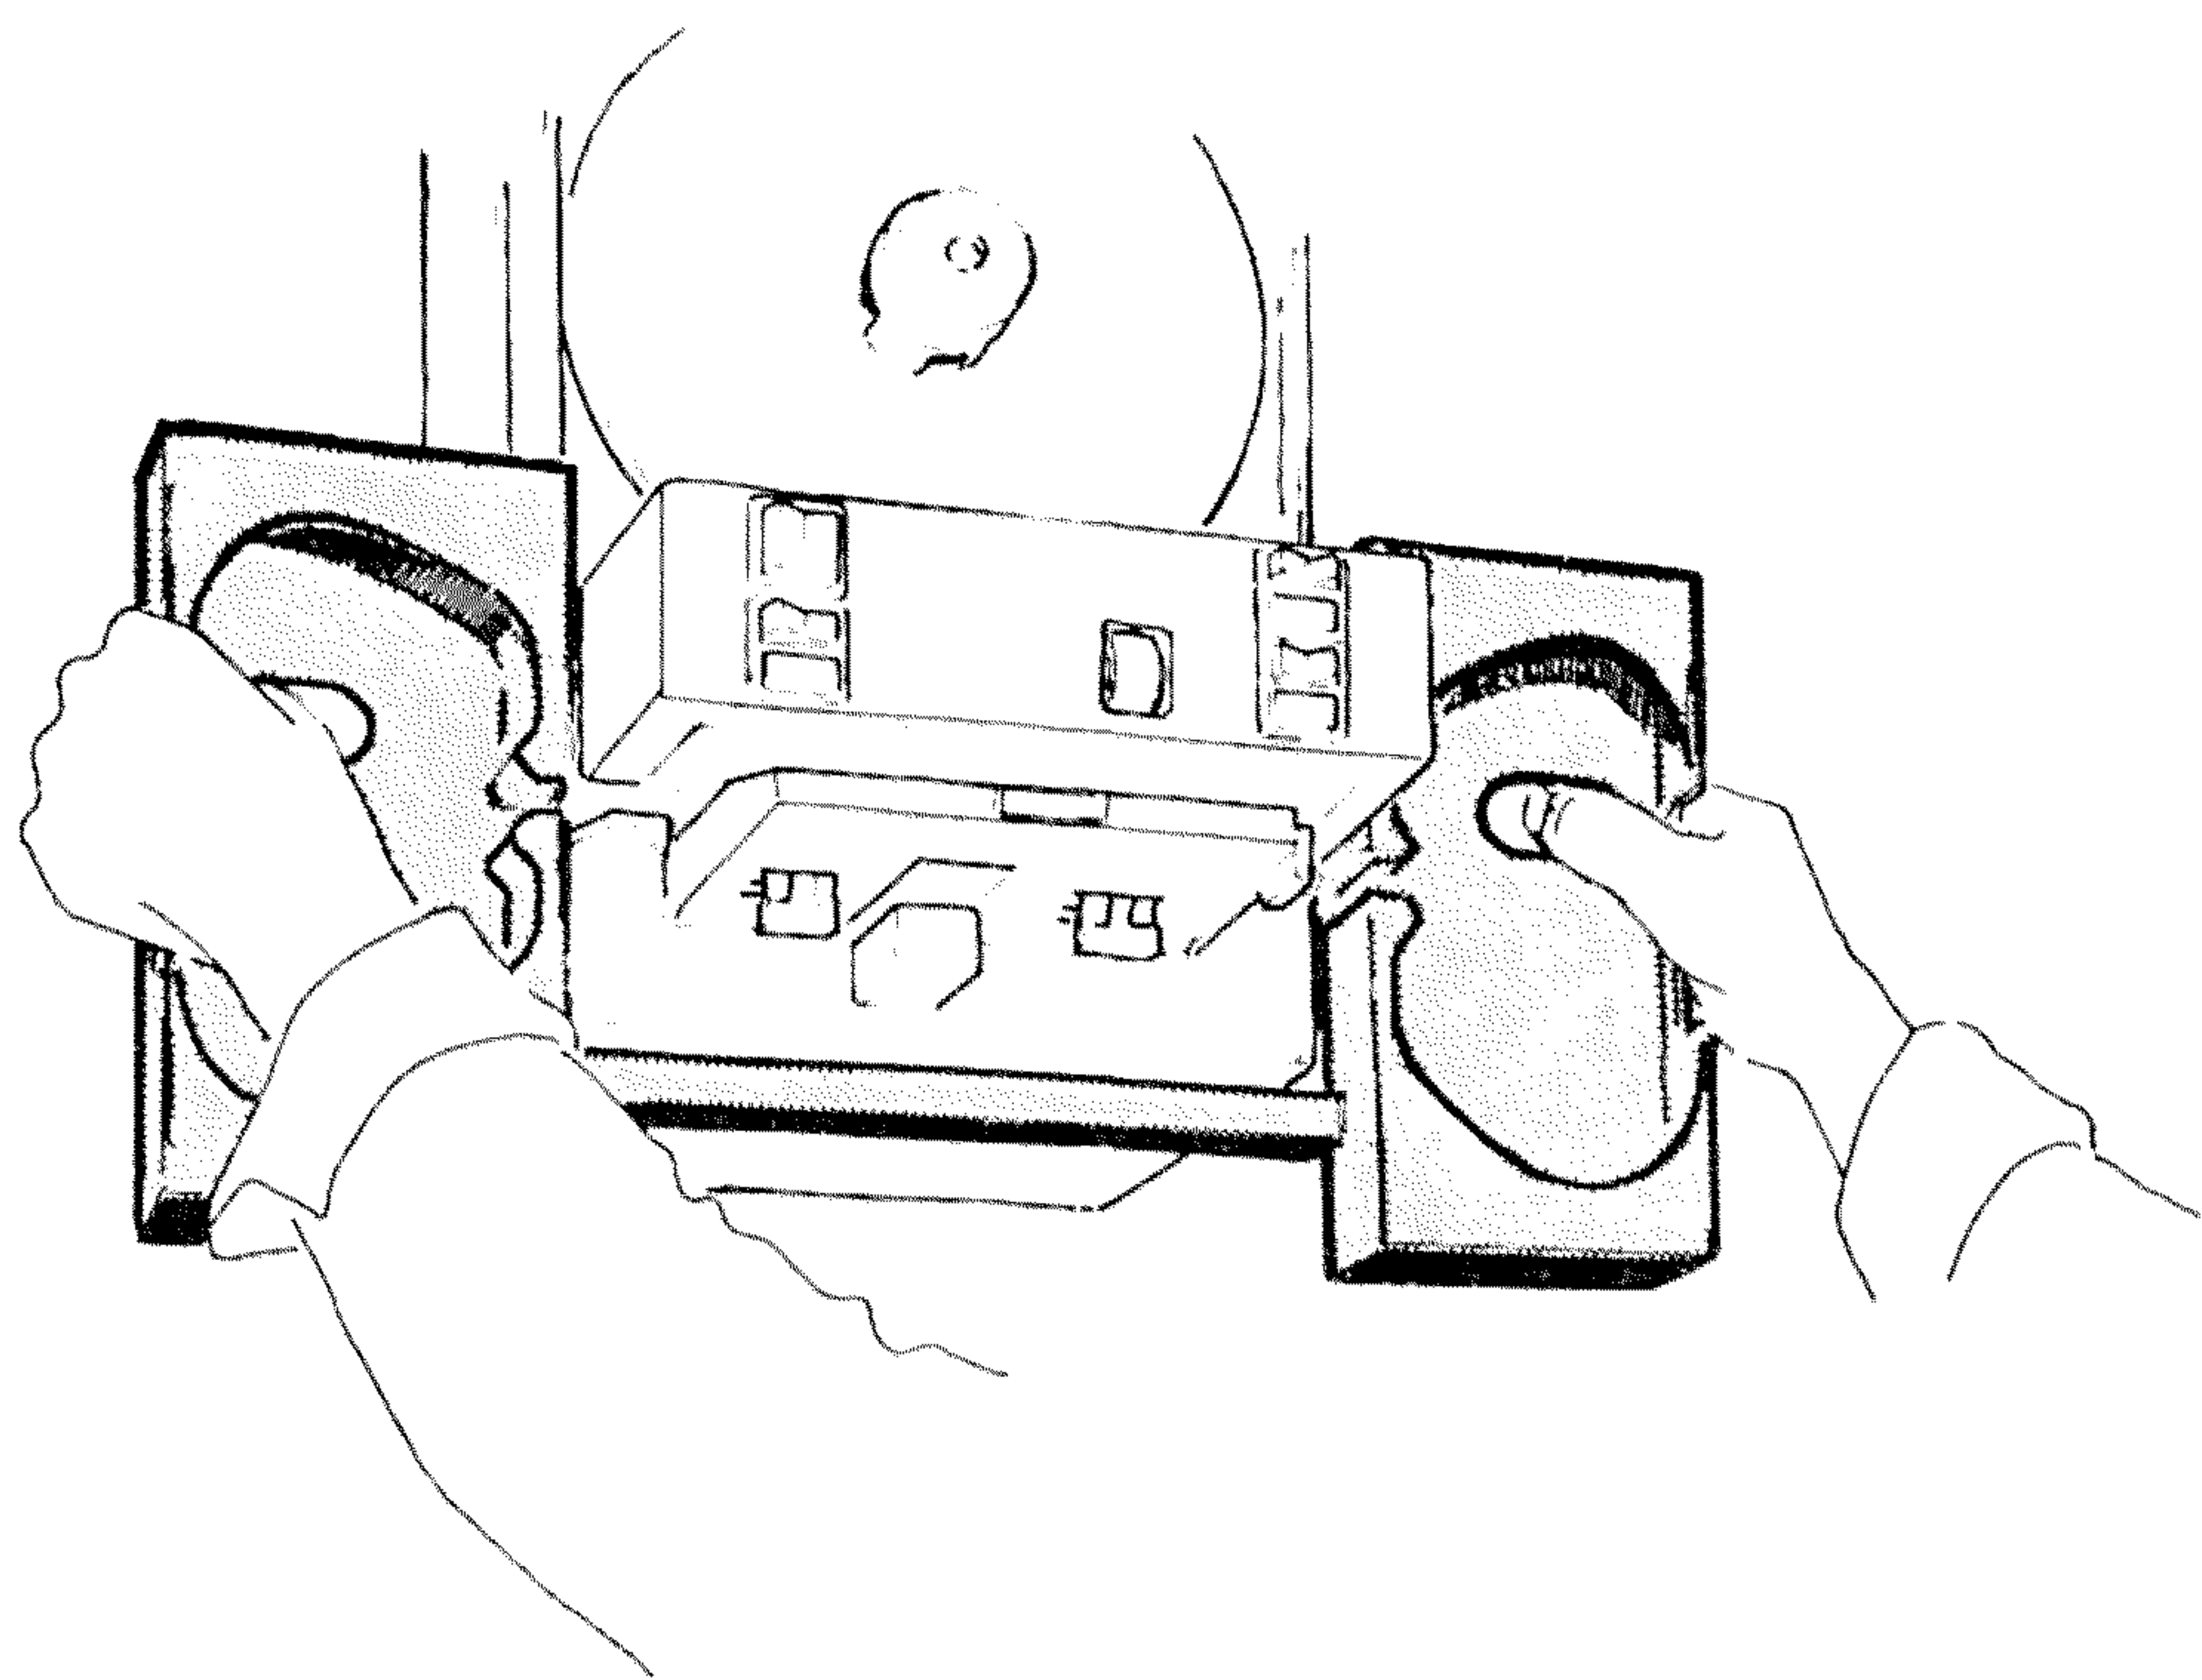
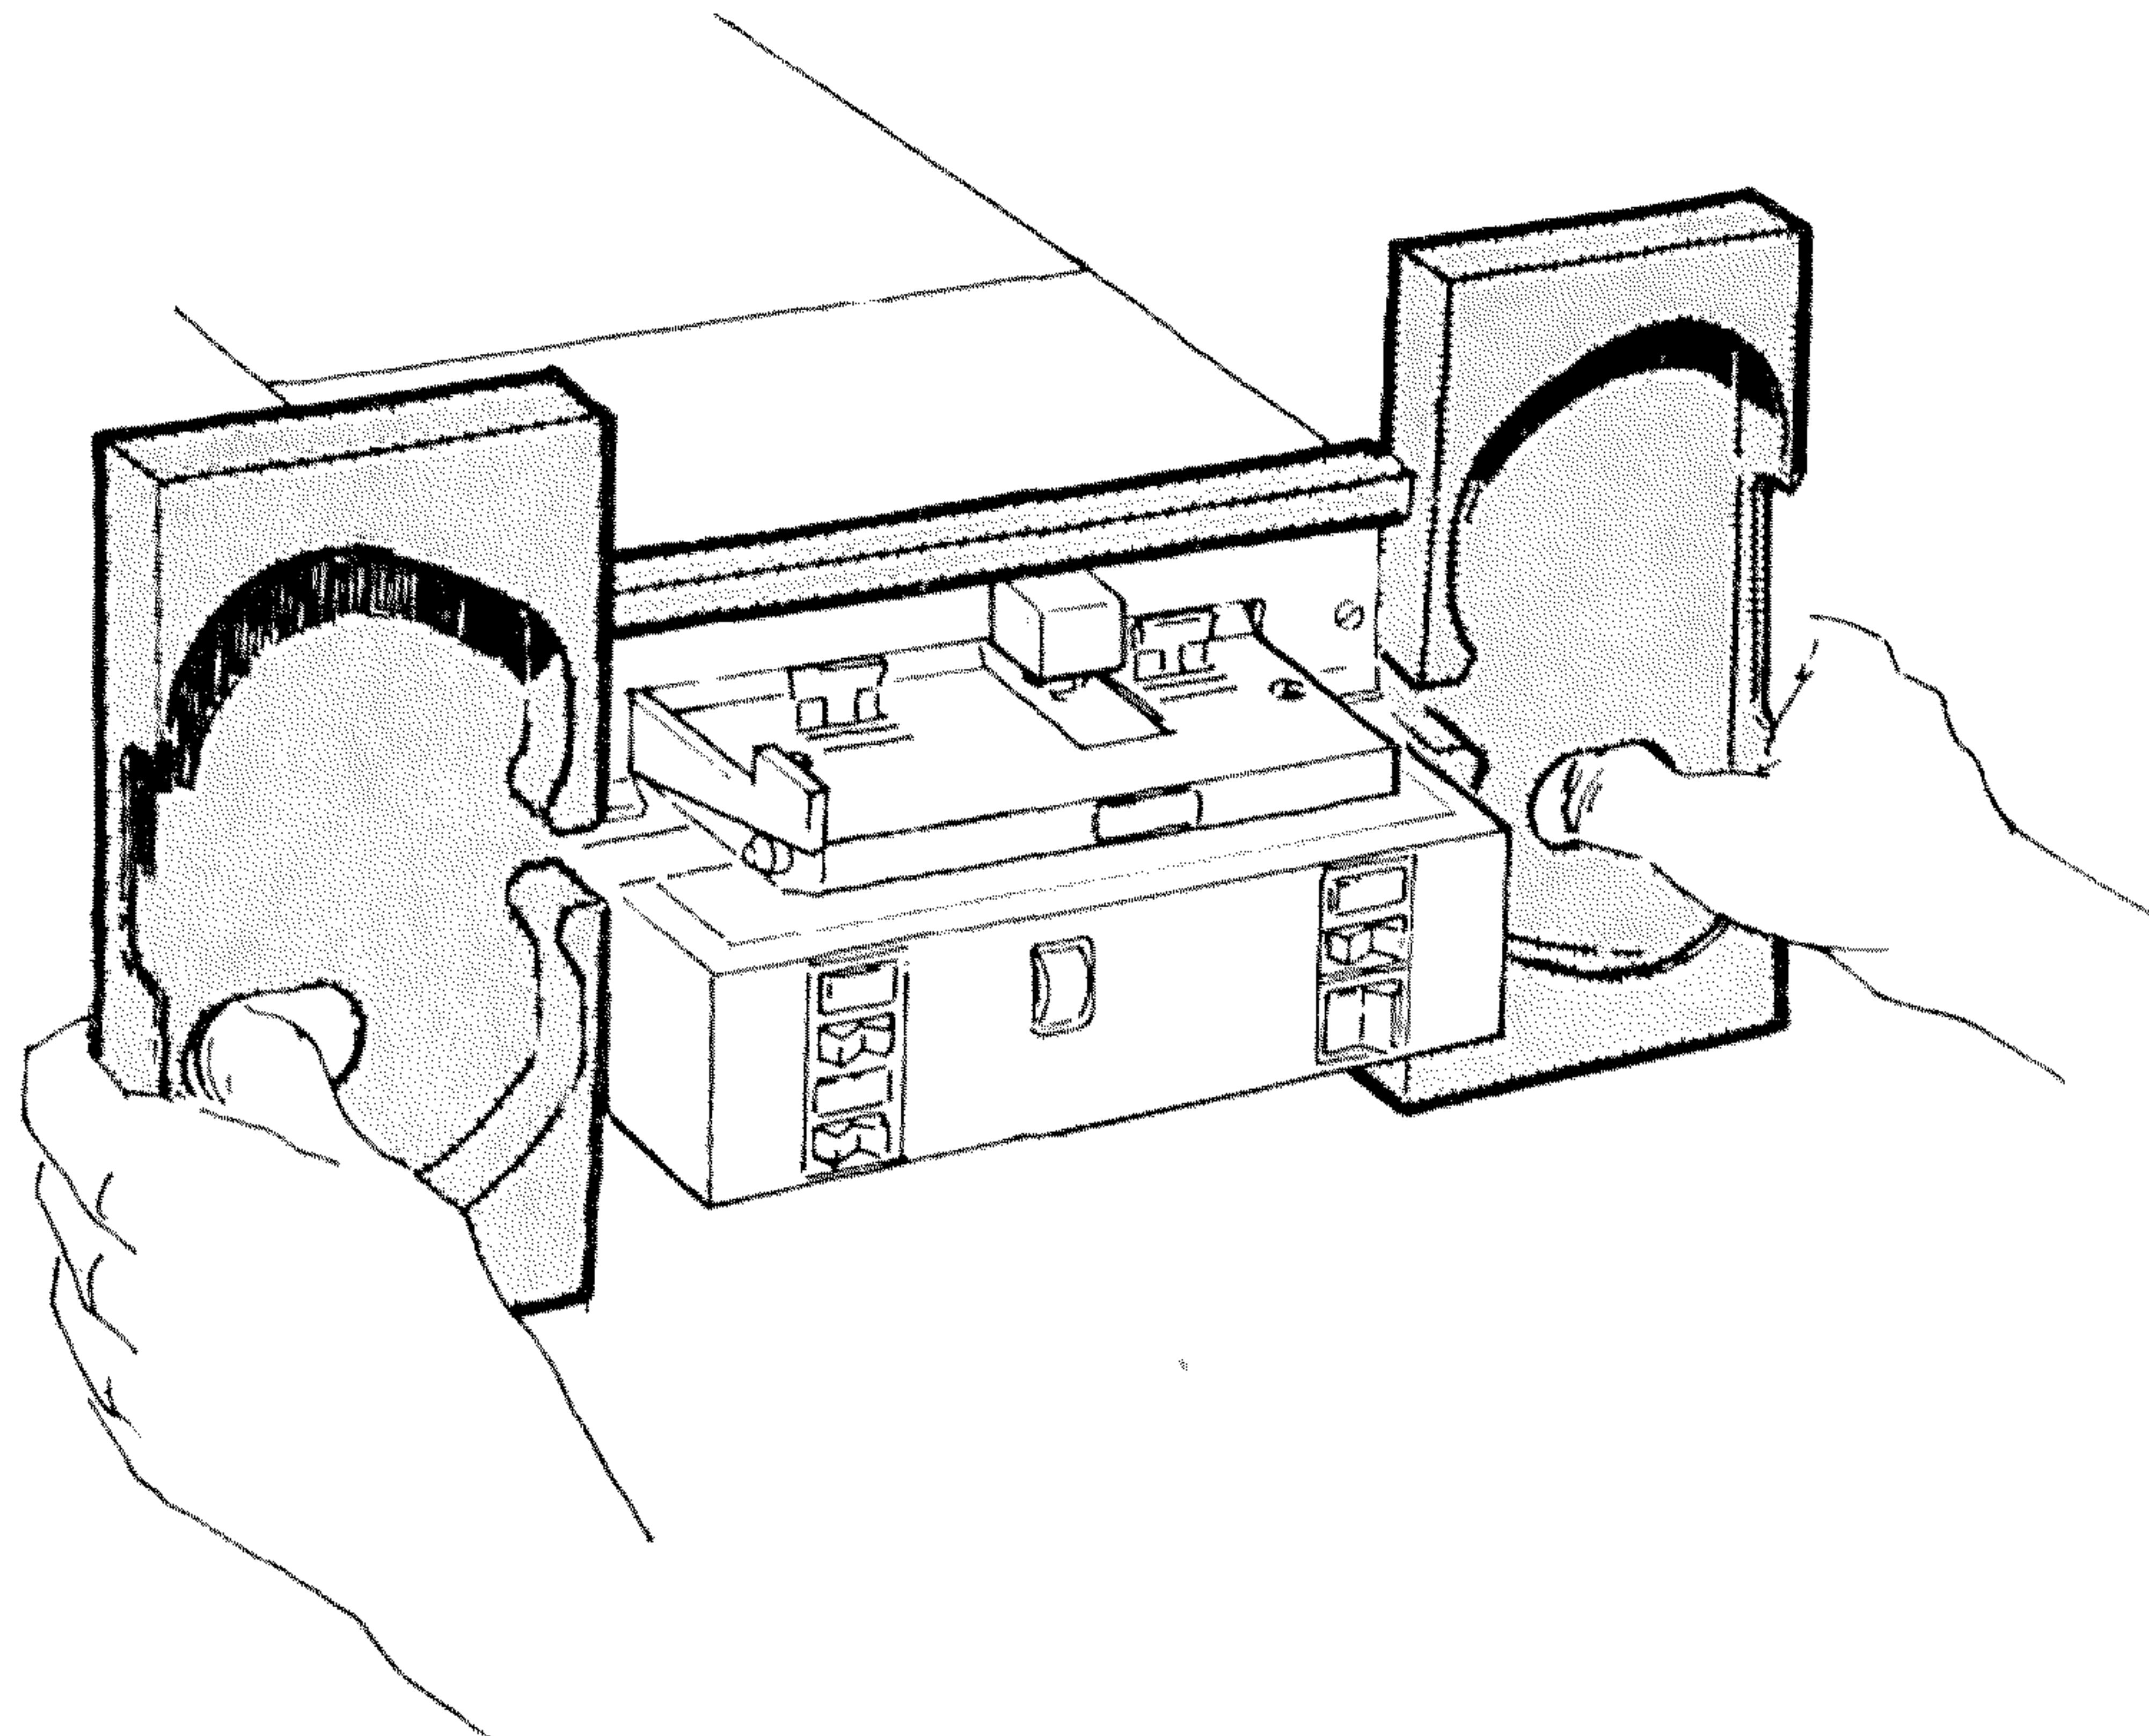

Fig. 11
Fig. 12
- Insert cassette as shown in Fig. 11 or Fig. 12.